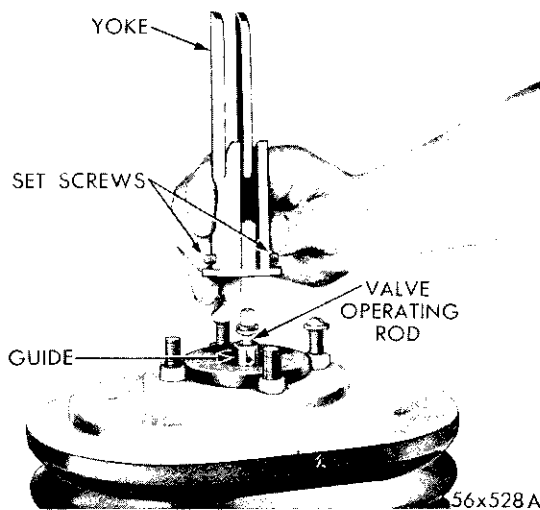

Fig. 25—Removing or Installing the Yoke
- (3) Remove and discard the mounting plate "O" ring.
- (4) Using an Allen wrench, back out two set screws sufficiently to allow the removal of the yoke (Fig. 25).